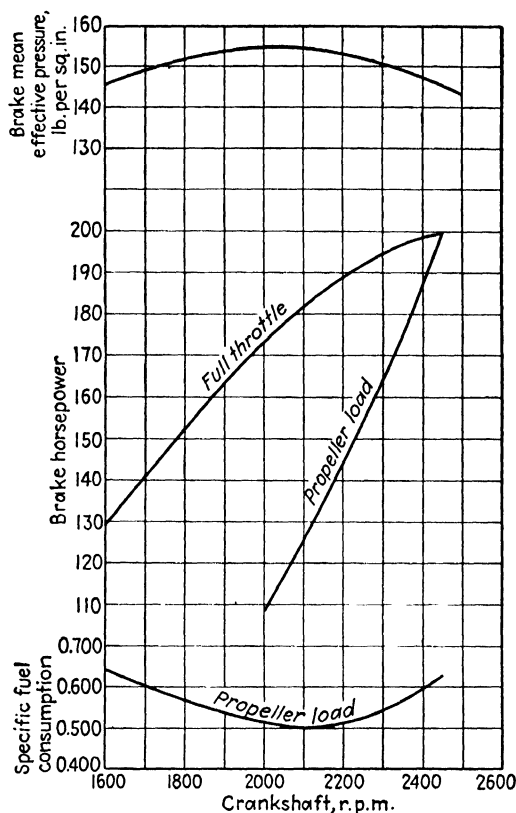

Fig. 278.—Performance curves: Ranger 6 aircraft engine.
3. The performance curve for the Ranger 6 cylinder, in-line engine, shown in Fig. 278, was taken from company specifications. Complete the following table of data from this graph: